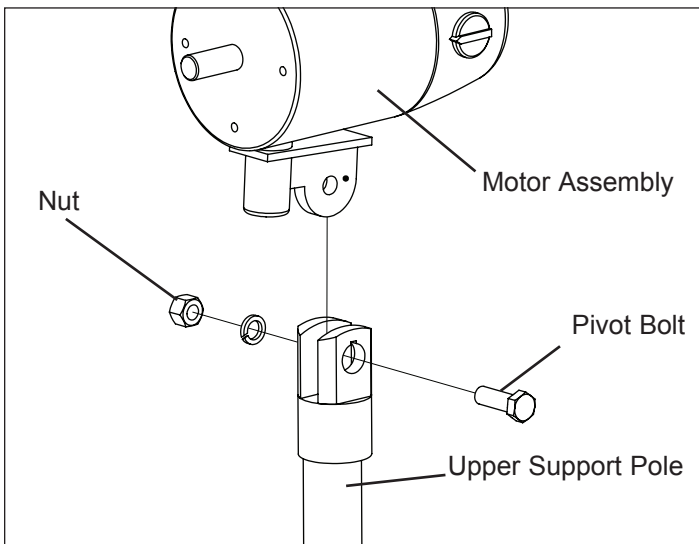

Figure 1: Attaching Motor to Motor Support Assembly
3. Secure tightly with (5) Flange Screws using the wrench/Phillips head screwdriver.
7. Secure Motor Assembly with Pivot Bolt (M12*40), Nut (M12), and Washer (see Fig. 1). Tighten the bolt firmly using the wrench. Tighten the set screw.